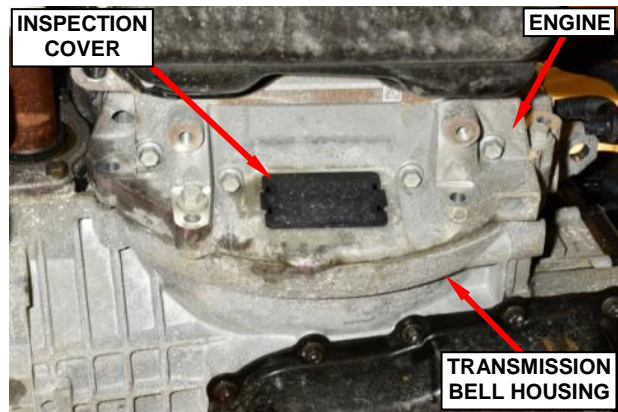

Figure 91 – Inspection Cover
75. Remove and save the transmission inspection cover (Figure 91).